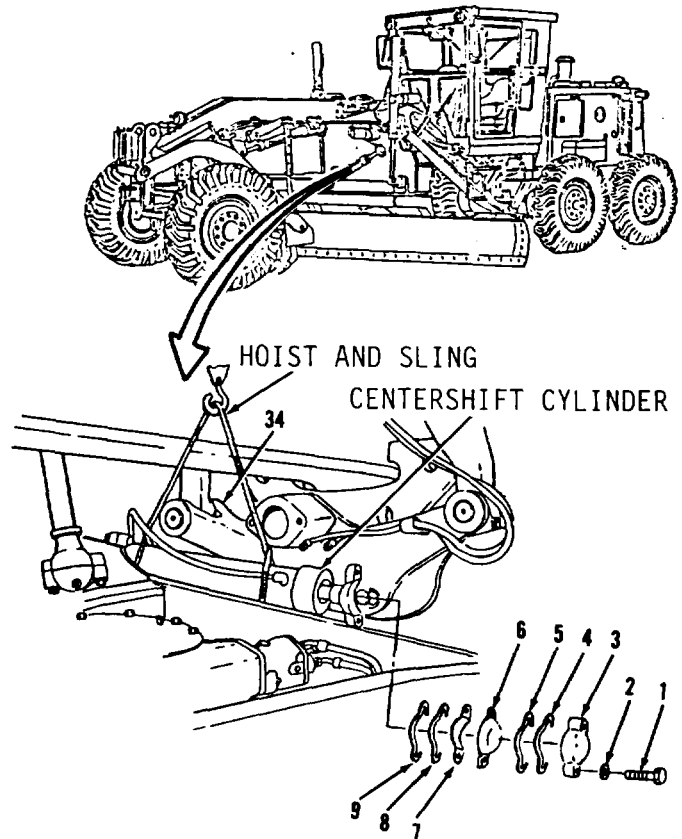

Figure 12-6.
2. Remove two bolts (1), lockwashers (2), cap (3), shim(s) (4 and 5), inserts (6 and 7) and shim(s) (8 and 9). Move center-shift cylinder clear of blade lift bar (34, Figure 12-6).